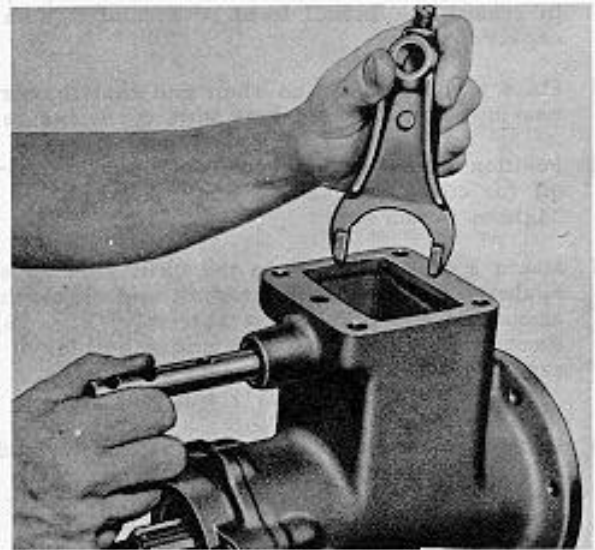

Fig. 23.
5. Place shift fork in groove of sliding clutch. Slide shift shaft into bore of fork (Fig. 23).